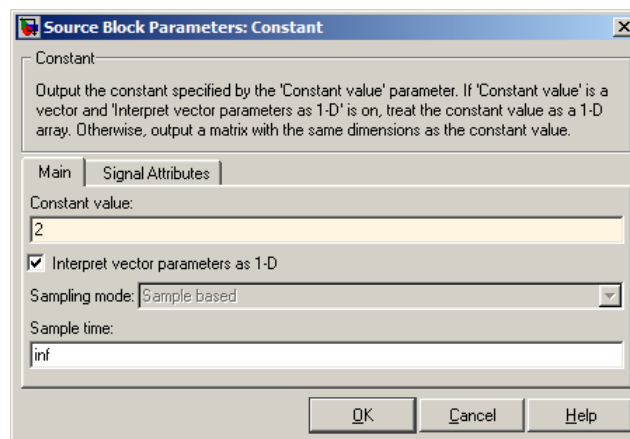

Figure 4 Change parameter of the Constant block
- Double-click the Constant, change the Constant value to 2 as shown in **Fig. 4**.